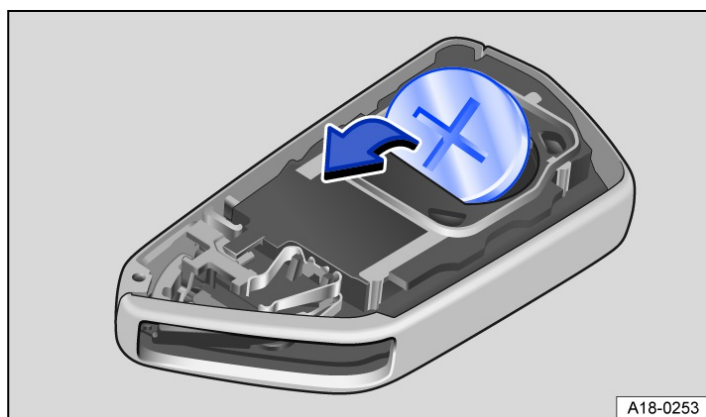

Fig. 2 Vehicle key: replacing the button cell.
- Lever the button cell out of the battery compartment → Fig. 2.